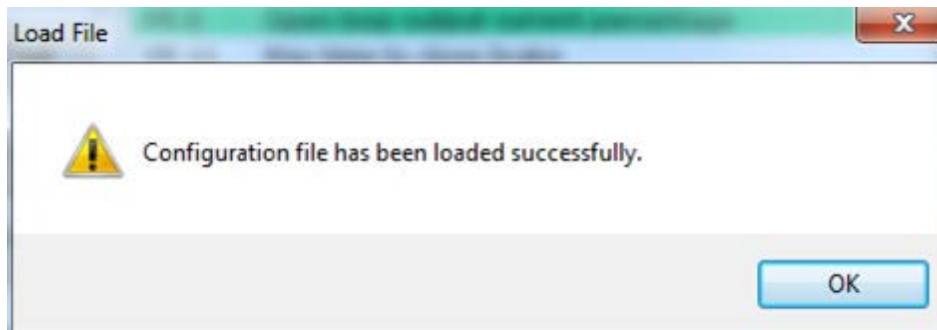

Figure 21: Open file confirmation
- After the configuration file is open, a message (Figure 21) will be displayed; all the parameter values stored in that configuration file will be loaded and displayed in the Parameters window. You can now tune those parameters or directly download them to the connected CS-D closed loop stepper drives.